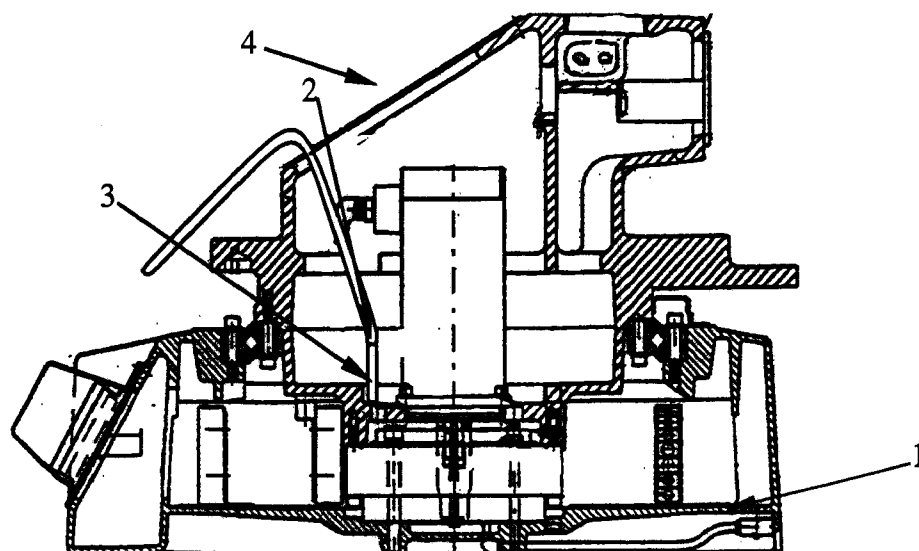

Figure 6 Lubricating axis 1.
- Remove the cover on the base (4). (See Figure 6)
- Remove the plug (3).
- Grease through the nipple (1).